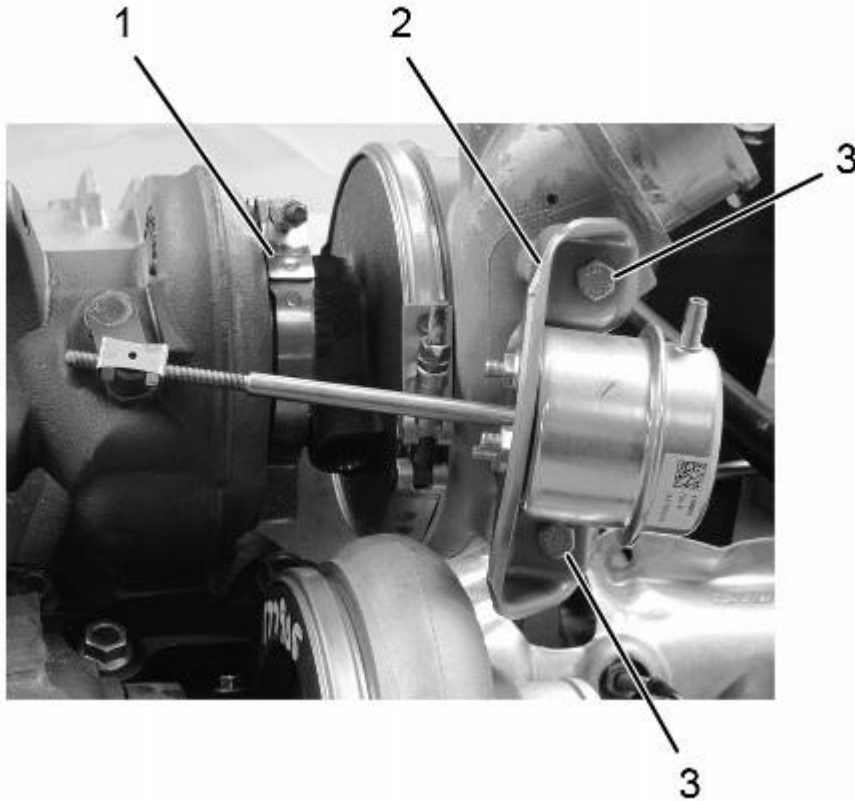

Figure 12. Wastegate Actuator.
- 3. M8 x 16 bolt (2)
5. Install turbine V-band clamp (Figure 12, Item 1) on HP turbocharger.
6. Using torque wrench, torque turbine V-band clamp (Figure 12, Item 1) to 13 lb-ft (17 N•m).
7. Install wastegate actuator (Figure 12, Item 2) with two bolts (Figure 12, Item 3).